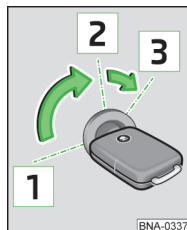

Fig. 61
Positions of the vehicle key in the ignition lock » fig. 61
- Turn the key to position **3** » fig. 61 on page 56, the start-up process will begin. Then release the key, the engine will start automatically.
- Turn the key to position **1** » fig. 61 on page 56.